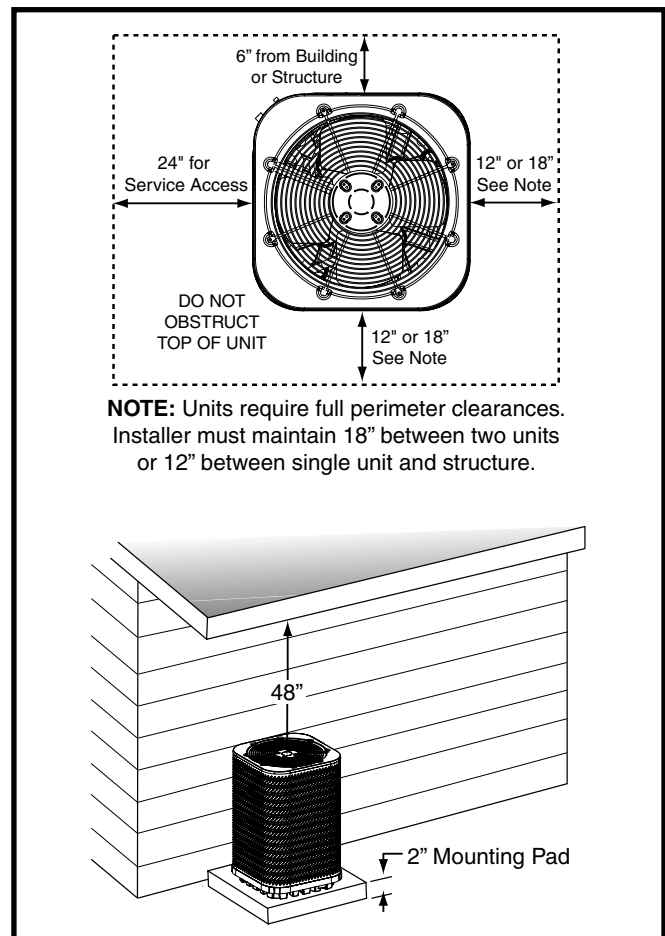

Figure 1. Clearance Requirements
- Sufficient clearance for unobstructed airflow through the outdoor coil must be maintained in order to achieve rated performance. See Figure 1 for minimum clearances to obstructions.
- Overhead obstructions (Figure 1), poorly ventilated areas, and areas subject to accumulation of debris should be avoided.
- Clearances must be in accordance with those shown in Figure 1.
- A suitable mounting pad (Figure 1) must be provided and separate from the building foundation. The pad must be level and strong enough to support the weight of the unit. The slab height must be a minimum of 2" (5 cm) above grade and with adequate drainage.